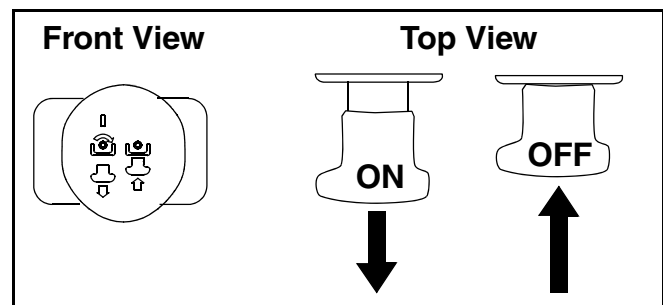

Figure 12
- Pull the PTO/Blade Engage knob outward into the engaged (ON) position. See Figure 12.
**IMPORTANT:** With the ignition key in the **NORMAL MOWING** position, the PTO clutch will automatically shut off if the PTO (Blade Engage) knob is moved into the engaged (ON) position with the drive pedal in position for Reverse travel. Refer to **Safety Interlock Switches** on page 16.